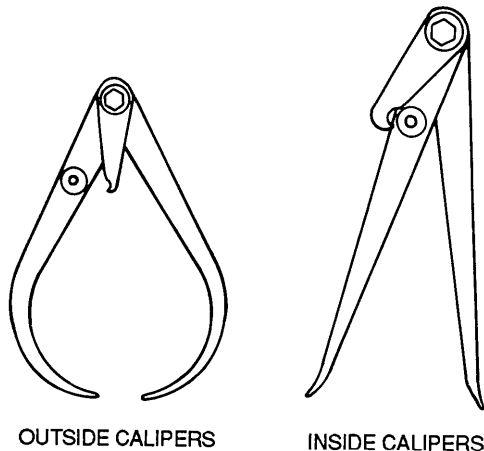

Figure 3-26. Transfer Calipers
(3) **Transfer calipers.** Transfer calipers are used for measuring chamfered grooves or angles. A screw attaches a small auxiliary leaf to one of the legs, as shown in figure 3-26. The measurement is made as with ordinary calipers. The leaf is locked to the leg. The legs may be opened or closed as needed to clear the obstruction. The legs are then brought back and locked to the leaf, restoring them to the original setting.